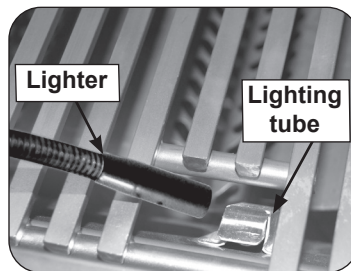
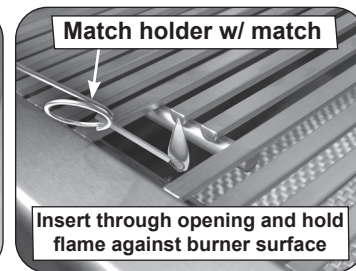

Fig. 35-2 Manual lighting via lighting tube
Fig. 35-3 Manual lighting via match holder
2. Insert either a burning long-barrel butane lighter or a burning long-stem match through the cooking grid opening to the top of the lighting tube. (Fig. 35-2). For backburners or infrared burners, hold the flame against the surface of the backburner/infrared burner. For charcoal burners, hold the flame near the burner. Grills equipped with an infrared burner include a wire extension match holder (attached to drip tray) to assist with manual lighting (Fig. 35-3).
4. If the burner does not light within five (5) seconds of turning the control knob, **immediately depress the knob and turn the valve to OFF**. **WAIT FIVE (5) MINUTES** before repeating steps 2 through 4 of the **MANUAL LIGHTING** instructions.